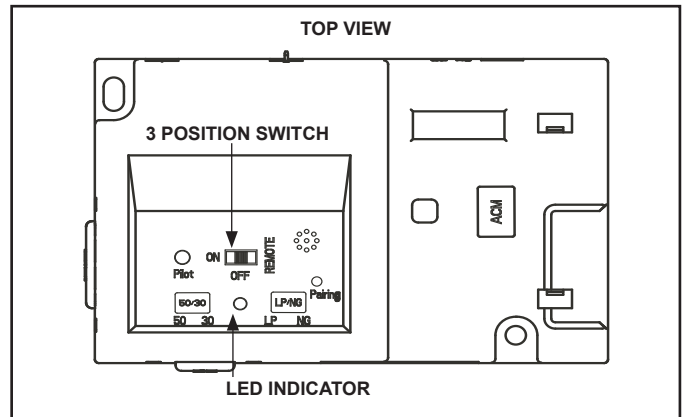

Figure 3.9 IFT-ECM
2. Toggle surround manual reset switch position to "OFF". See Figure 3.9. Check to make sure the ignition module switch is **NOT** in the "ON" position.
- Toggle surround manual reset switch position to "ON". See Figure 3.9. Check to make sure ignition module switch is in the "REMOTE" position.
- Toggle surround manual reset switch position to "ON". See Figure 3.9.
- Slide the ON/REMOTE/OFF switch to the ON position. See Figure 3.9.
- Toggle surround manual reset switch position to "OFF". See Figure 3.9.